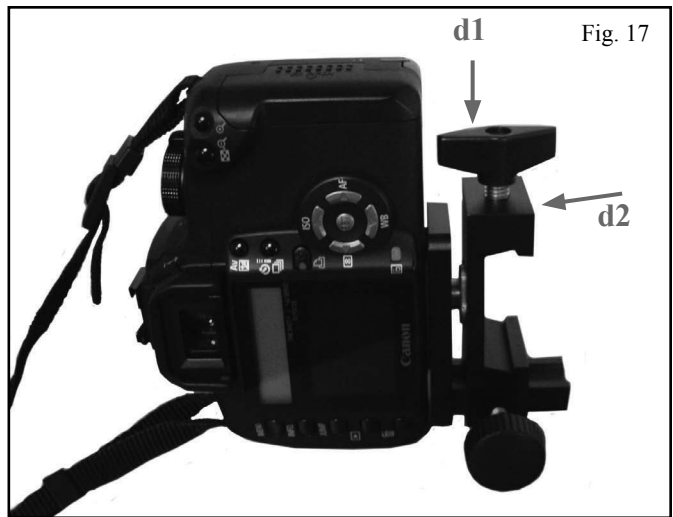

Fig. 16
3. Attach the Mounting Plate (d1) to your camera using the 1/4-20 screw as shown in **Fig. 16**.